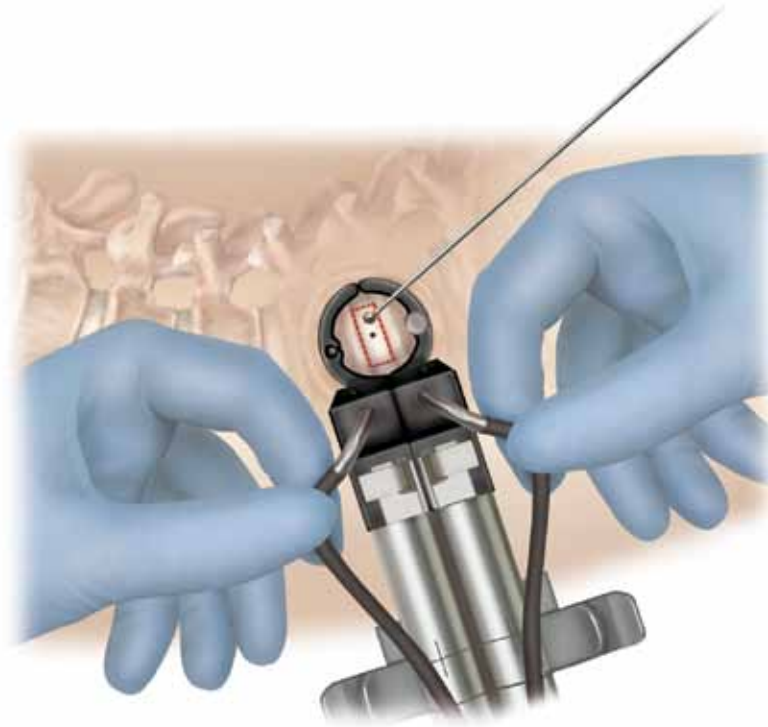

Figure 26
Step 1 The MAST QUADRANT™ Illumination System is attached to the retractor blades by placing the metal tips of the light source into the holes on the top of the blades and then sliding the tips under the built-in retaining sleeves (**Figure 26**).